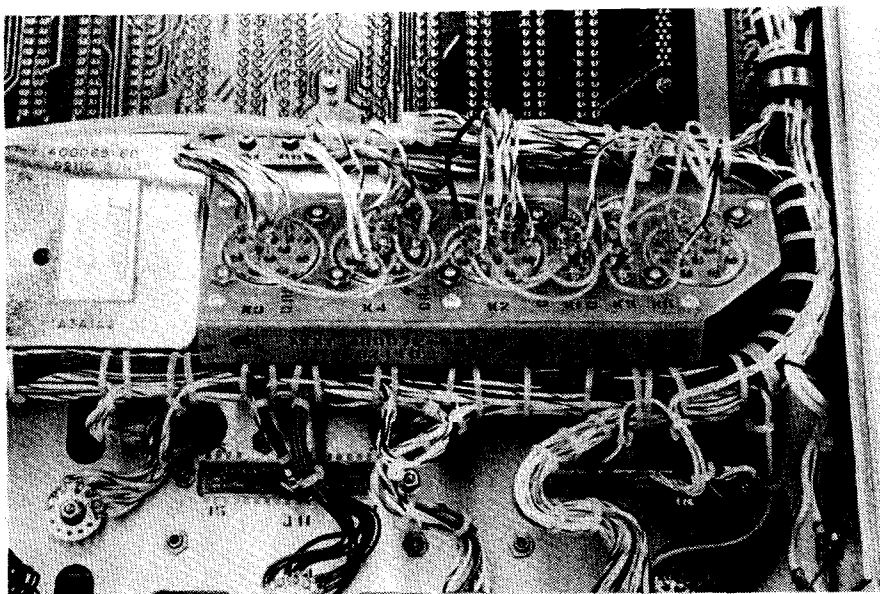
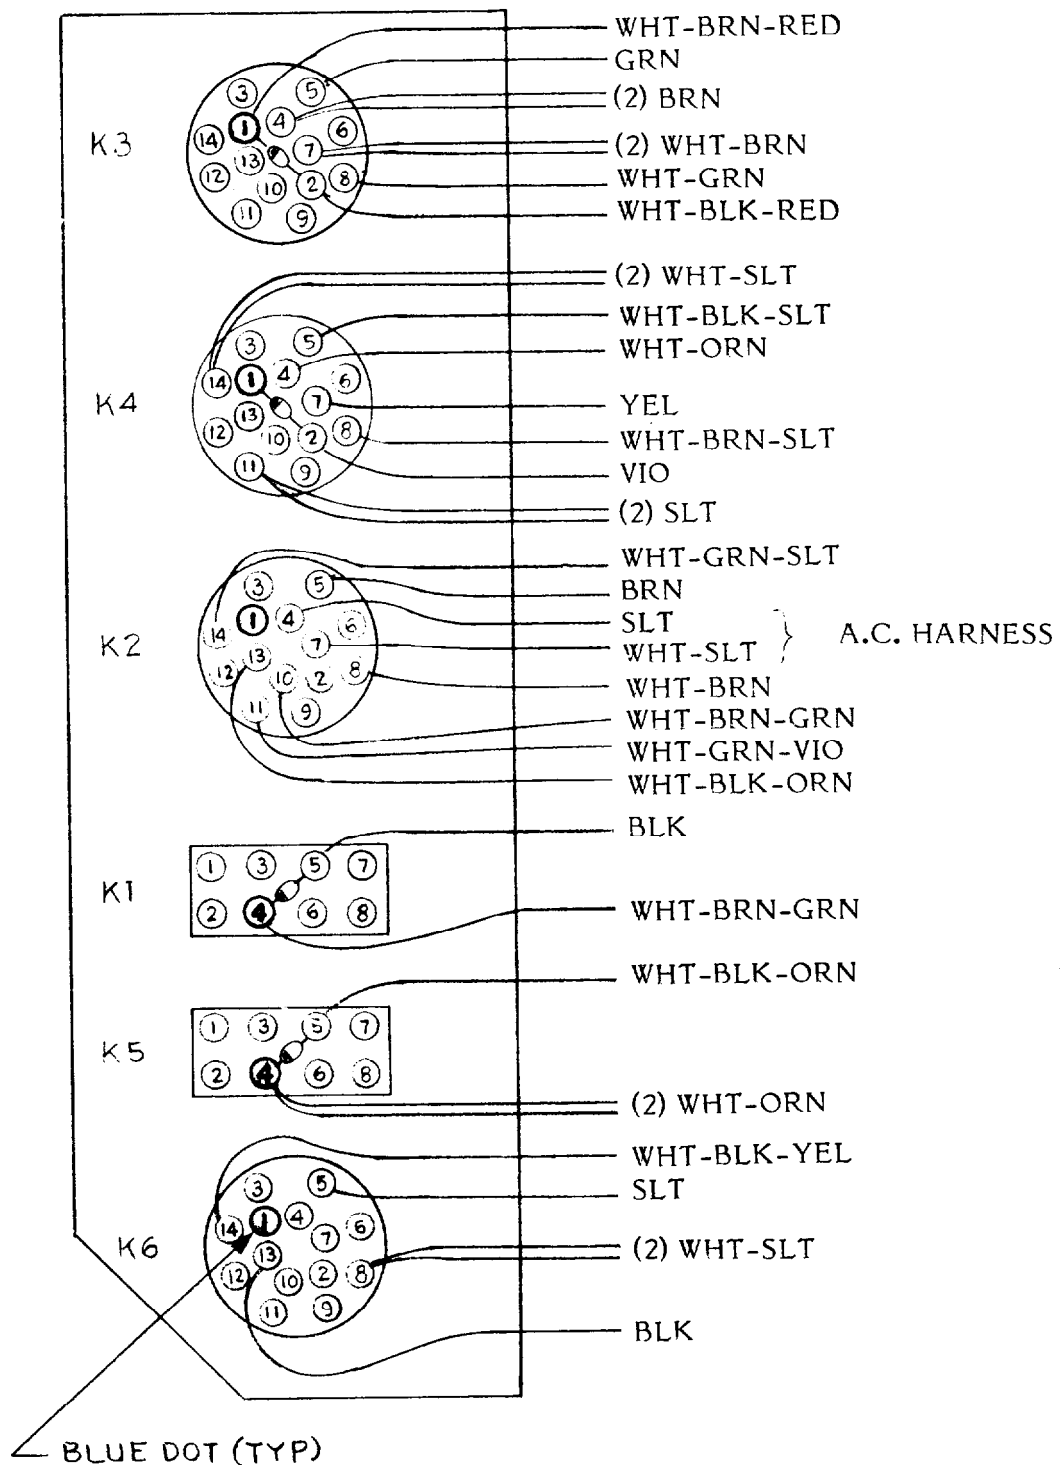

FIGURE 7
FIGURE 8
- B. Solder leads to relay terminals as shown in Figure 7 and wiring diagram Figure 8.
1. Place new relay bracket assembly into position, Figure 7.
1. Carefully check wiring to ascertain that it is in accordance with wiring diagram (Figure 8). Verify that specified color coded wires are connected to the designated terminals.